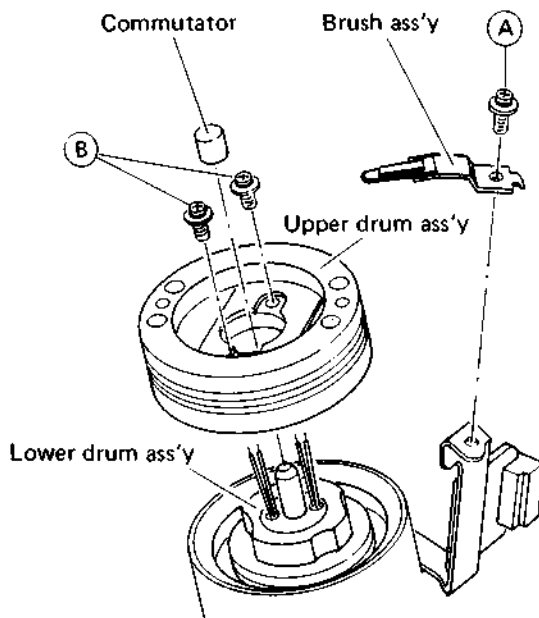

Fig. 5-4 Upper drum and brush/commutator replacements
1. Take out screw (A) and remove the brush assembly. See Fig. 5-4.
4. Take out screws (B) and remove the upper drum assembly in the upward direction.